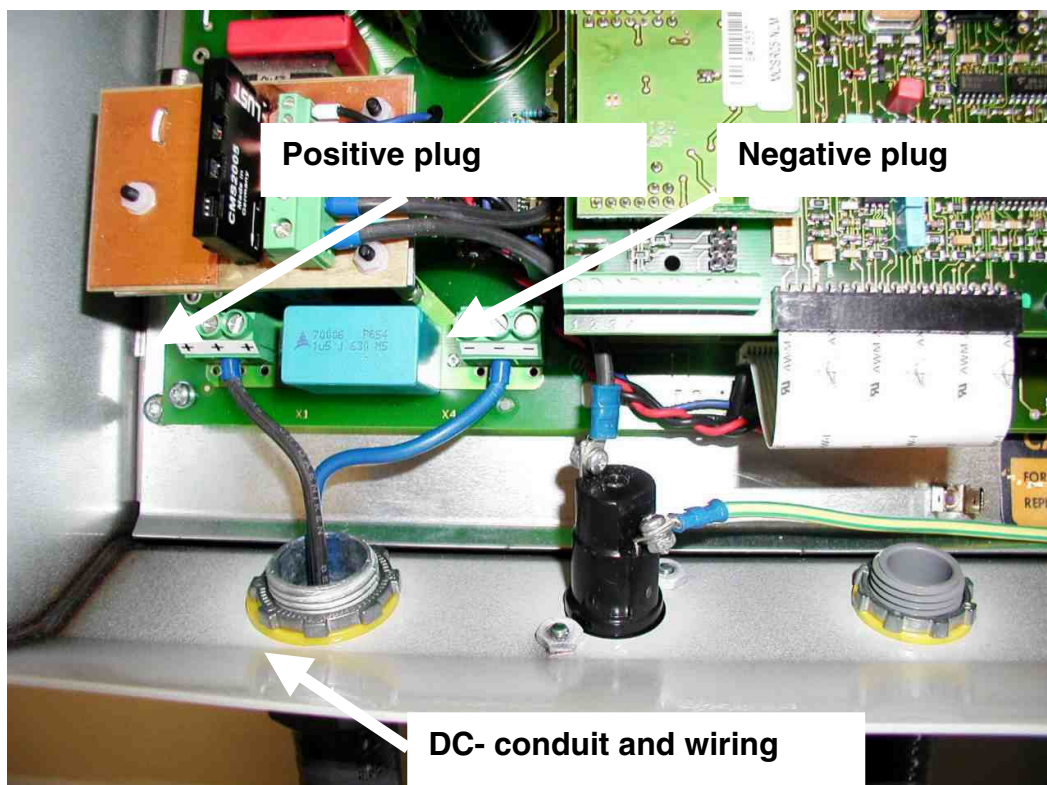

Fig. 2.9: DC connection socket
- Connect the positive (+) wire to the terminal block labeled with (+), see Fig. 2.9.
- Connect the negative(-) wire to the terminal block labeled with (-), see Fig. 2.9.